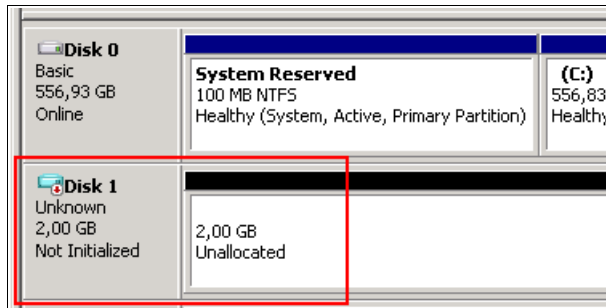

Figure 3-22 VHD in disk management
- The new VHD will then be listed in disk management of the Windows Server 2008 host. See Figure 3-22.